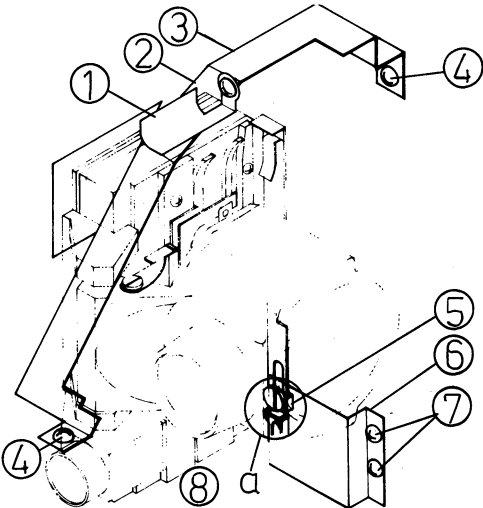

Fig. 12
- c. Tighten securely Fig.13-2x2,7 while observing the engagement of Fig.12-5,8 in the part (a) of Fig.12.